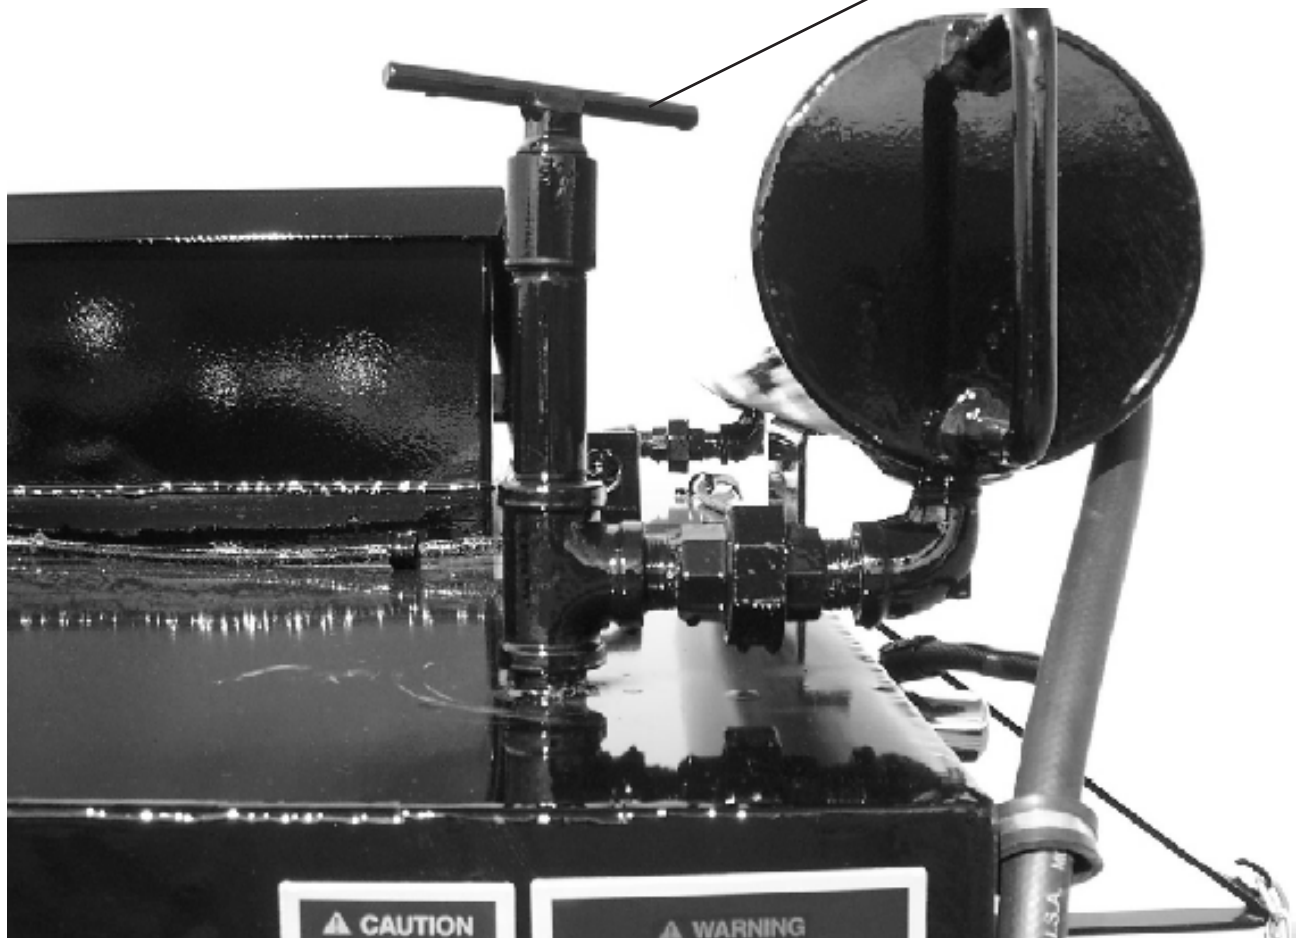

Fig. 4
4. Check heat transfer oil level (see Fig. 4). At 70°F., the oil should touch the end of the dipstick. **DO NOT** overfill or spillage may occur when oil is heated and expands. **NEVER REMOVE DIPSTICK WHEN OIL IS HOT.**